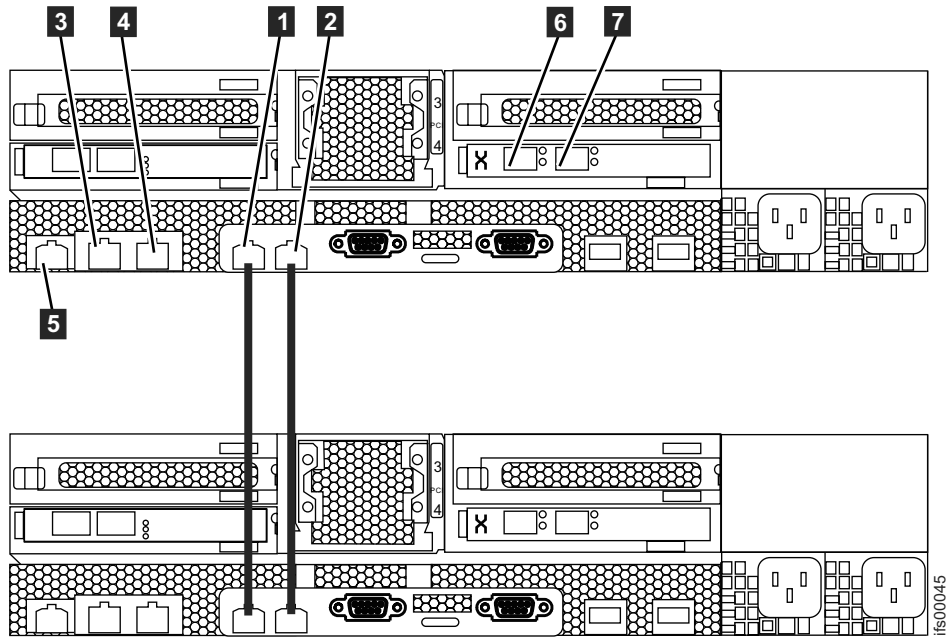

Figure 37. File module node Ethernet network connections.
This task assumes that your initial planning has determined where the Ethernet cables are to be located. The Storwize V7000 Unified control enclosure requires at least one and a maximum of two 1 Gbps Ethernet connections. Refer to Figure 35, Figure 36 on page 33, and Table 3 on page 33. For the file modules, the first two 1 Gbps Ethernet ports labelled **1** and **2** in Figure 37 on page 34 are used for internal communications between the file modules. The third and fourth 1 Gbps Ethernet ports are used for management and data (if needed). All 10 Gbps Ethernet ports are dedicated to data. Management cannot be performed over the 10 Gbps Ethernet. Refer to Figure 37 on page 34 and Table 4 on page 34.
- Connect an Ethernet cable from Ethernet port 1 on the first file module to the first Ethernet port on the second file module. Refer to Figure 37 on page 34 for port locations.
You have two 10 Gbps Fibre Ethernet ports available for host connections from each file module. The ports are on the PCI card located in slot 4. Connect your network cables to the Ethernet ports in these slots as applicable. Refer to Figure 37 on page 34.